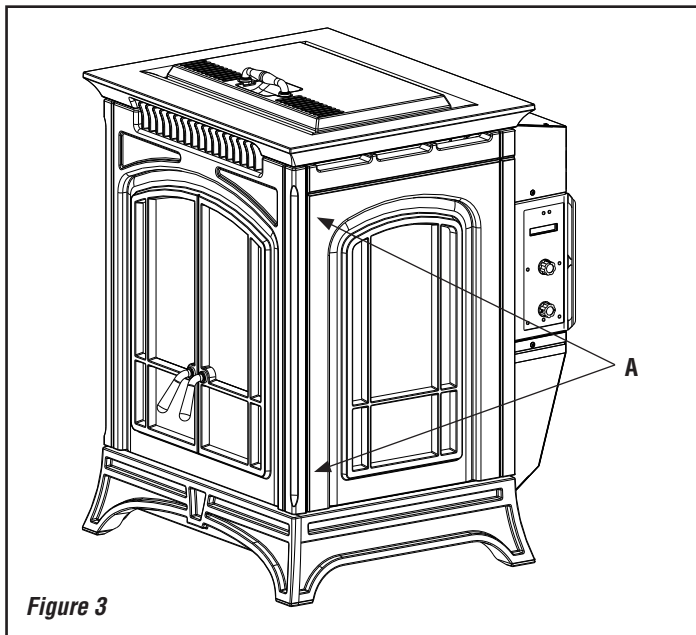

Figure 3
- Step 1.** Apply protective tape to the front edge of the right side door, and the back (right) edge of the front door (see A in **Figure 3**).
Step 3. Hold the right side door closed tightly while you carefully return the front cast iron door to the closed position, paying special attention to the narrow gap between the two doors (A in **Figure 3**).